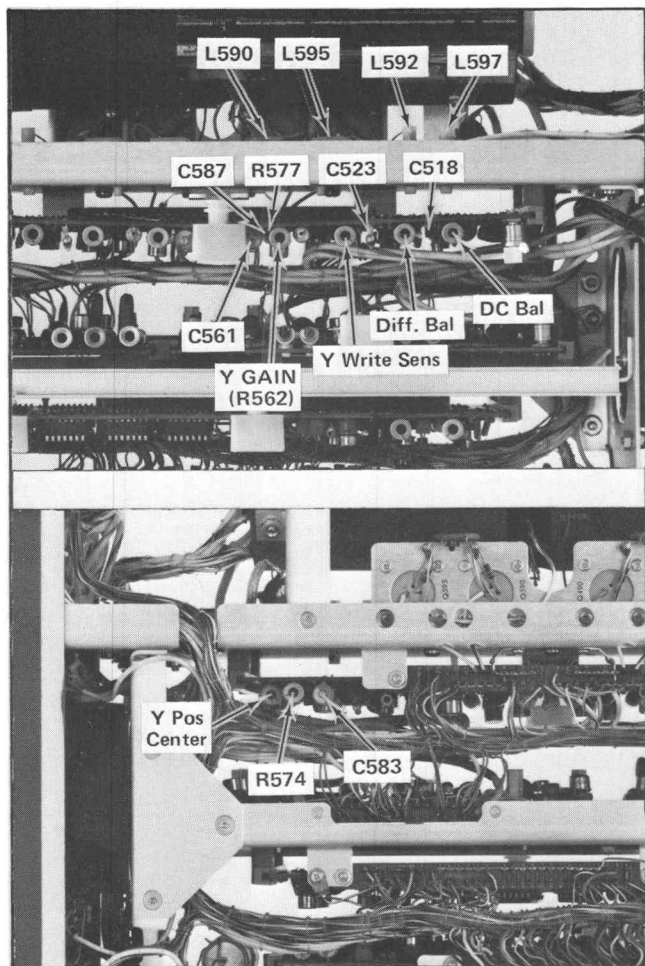
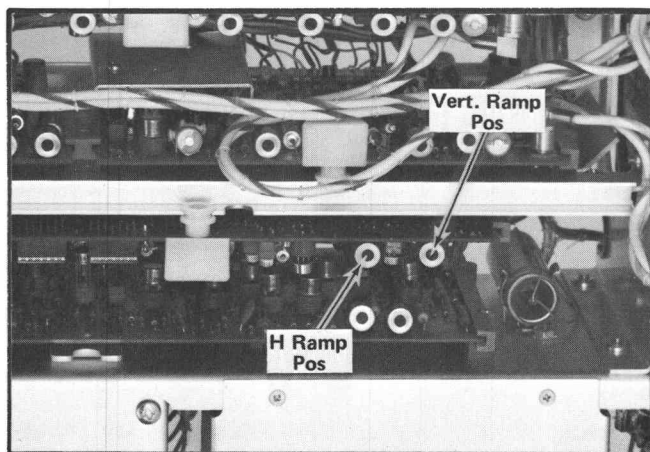
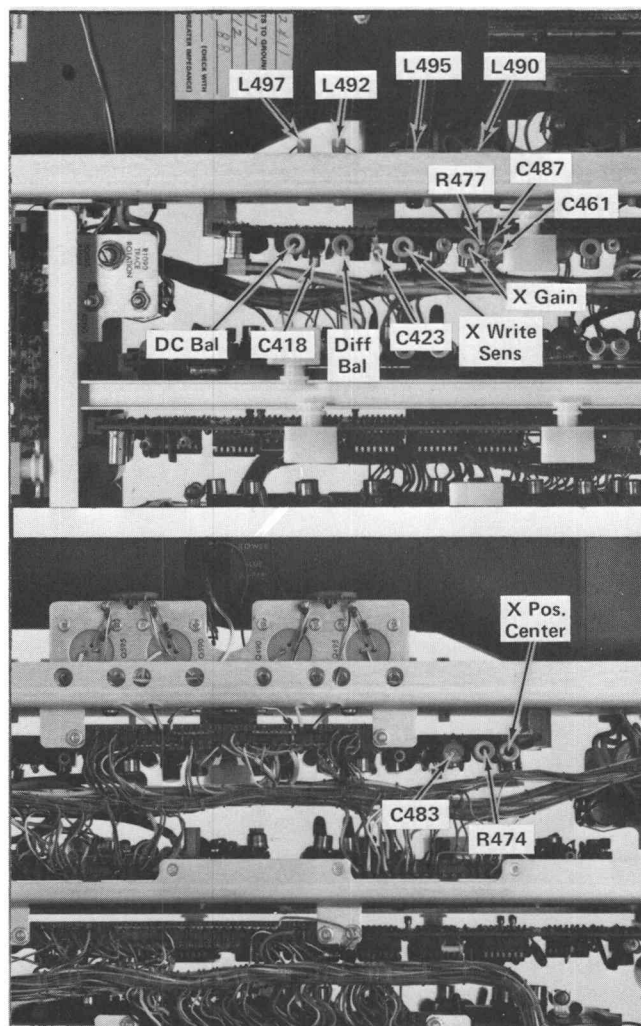

Fig. 5-16. Location of Y Axis Adjustments.
Fig. 5-17. Location of Vertical ramp position and Horizontal ramp position adjustments.
Fig. 5-20. Location of X Axis adjustments.
- d. ADJUST—R562 (see Fig. 5-16) until the raster amplitude is 7.5 cm. Center the raster on the CRT graticule by adjusting R85, Vertical Ramp Position (see Fig. 5-17).
- f. ADJUST—R462, X gain, (see Fig. 5-20) for 10 cm of displayed raster and adjust R55, Horizontal Ramp Position, (see Fig. 5-17) to center the raster horizontally on the CRT graticule.
- e. ADJUST—R549, Y position center, (see Fig. 5-16) until the trace is centered vertically on the CRT graticule.
- a. ADJUST—DC Bal, R508, (see Fig. 5-16) for minimum shift of trace while varying Y Write Sens, R538, (see Fig. 5-16) from fully clockwise to fully counterclockwise.
c. ADJUST—The Y Diff Bal, R520, (see Fig. 5-16) for minimum deflection.
d. ADJUST—C561, R574, C583, R577, C587, L590, L595, L592, L597, C523, and C518, (see Fig. 5-16) for a square leading corner with fast rise and less than 2 mm of aberrations. These controls should be adjusted in small increments in the order given. L590 and L595 should be adjusted to approximately the same depth. L592 and L597 should also be adjusted to approximately the same depth.
d. ADJUST—R449, X Position Center, (see Fig. 5-20) until the trace is centered horizontally on the CRT graticule.
a. ADJUST—DC Bal, R408, (see Fig. 5-20) for minimum shift of trace while varying X Write Sens, R438, (see Fig. 5-20) from fully clockwise to fully counterclockwise.
c. ADJUST—The X Diff Bal, R420, (see Fig. 5-20) for minimum deflection.
d. ADJUST—C461, R474, C483, R477, C487, L490, L495, L492, L497, C423, and C418, (see Fig. 5-20) for a square leading corner with fast rise and less than 2 mm of aberrations. These controls should be adjusted in small increments in the order given. L490 and L495 should be adjusted to approximately the same depth, L492 and L497 should also be adjusted to approximately the same depth.